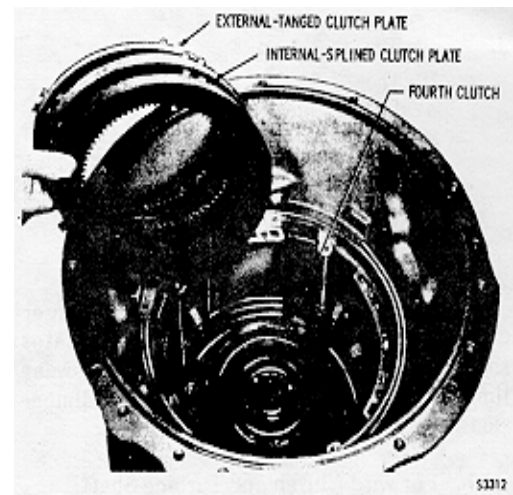

Fig. 7-21. Installing third clutch plates
(1) Beginning with an external-tanged clutch plate, alternately install three external-tanged and three internal-splined plates (Fig. 7-21). Note the location of the three pairs of tangs and a single tang in relation to paired slots and a single slot. The plate will not have any rotational movement when properly installed.